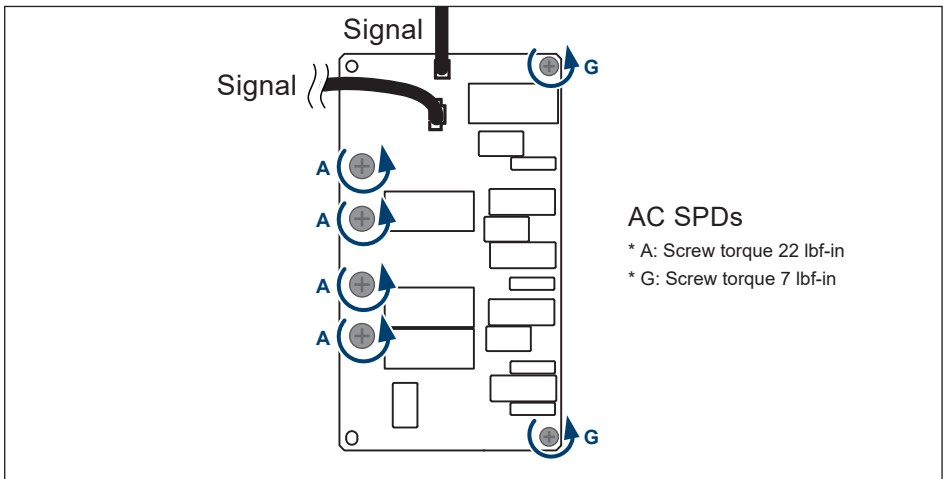

Figure 5-6: Remove wirings as connectors of AC SPD
2. Remove the 2 signal wiring connectors from the AC SPD. (**Figure 5-6**)
3. Loosen 4 self-retaining screws (**Figure 5-6 screw A**).
4. Loosen 2 self-retaining screws (**Figure 5-6 screw G**).
Tighten the 6 screws to a torque the value shown in **Figure 5-6**.